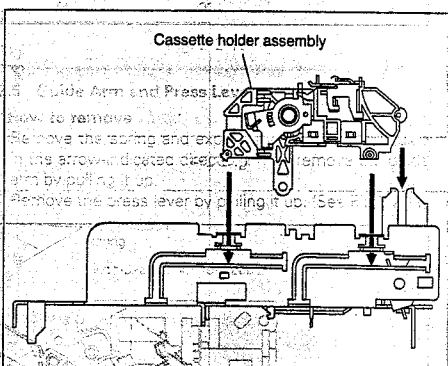
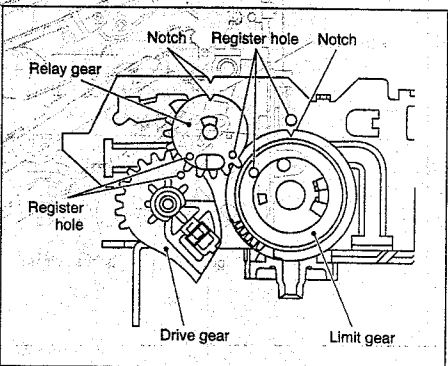

Fig. 2-2-8
Fig. 2-2-9
- (3) Drop the three legs on the left side of the cassette holder into the groove at one time. (See Fig. 2-2-8)
- (4) Slide the whole cassette holder toward the front to bring it to the eject end position.
- (5) Install the limit gear so that the notch on the outer circumference of the limit gear is brought into alignment with the register hole on the main deck. (See Fig. 2-2-9)
- (6) Install the relay gear so that the notch on the outer circumference of the relay gear is brought into alignment with the notch on the main deck. It is important at this stage that the register hole at the limit gear, the register hole at the relay gear and the register hole at the drive gear are all in alignment. (See Fig. 2-2-9).
- (7) Install the door stopper, opener guide and cassette holder Reg. bracket and fasten the two slit washers.